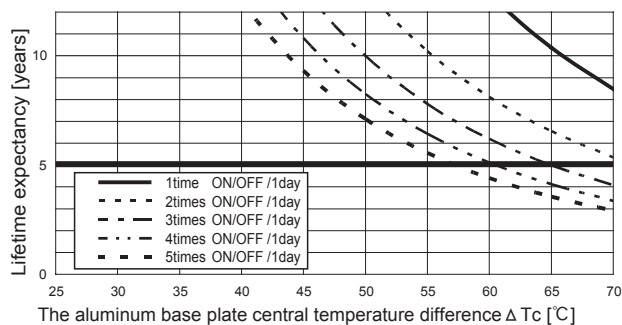

Fig7.1 Lifetime expectancy against rise/fall temperature difference
■Product lifetime expectancy depends on the aluminum base plate central temperature difference (ΔT_c) and number of cycling in a day is shown in Fig.7.1.